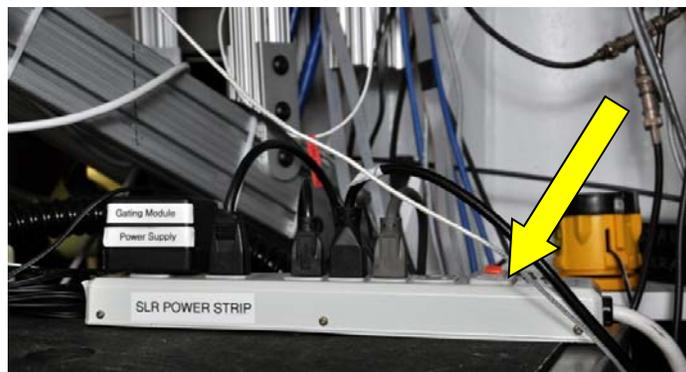

Figure 3-20: SLR Power Strip
2. **Turn ON the SLR Power Strip** – This supplies power to the PMT high voltage supply, the waveform generator, the high voltage amplifier, the power meter, and the gating module (Figure 3-20).